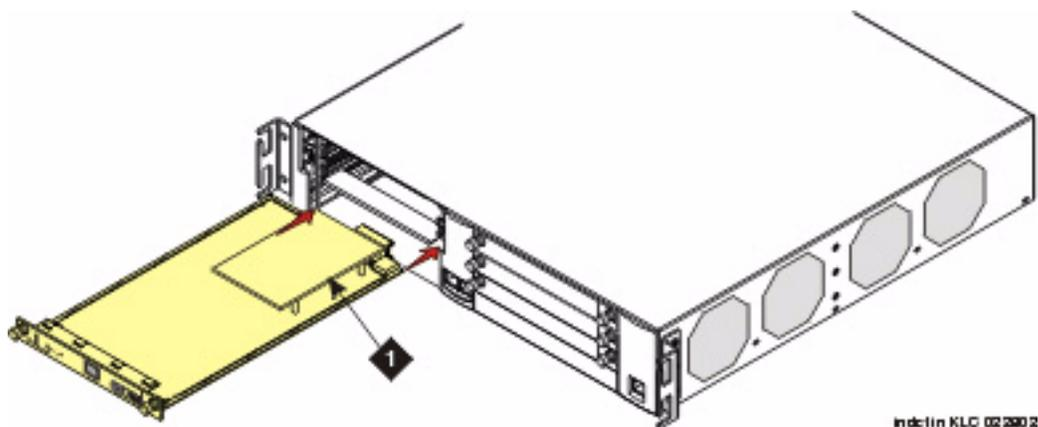

Figure 3. Inserting Media Modules
5. Slide the module slowly into the chassis, maintaining an even pressure to assure that the module does not become twisted or disengage from the guides. (Figure 3)